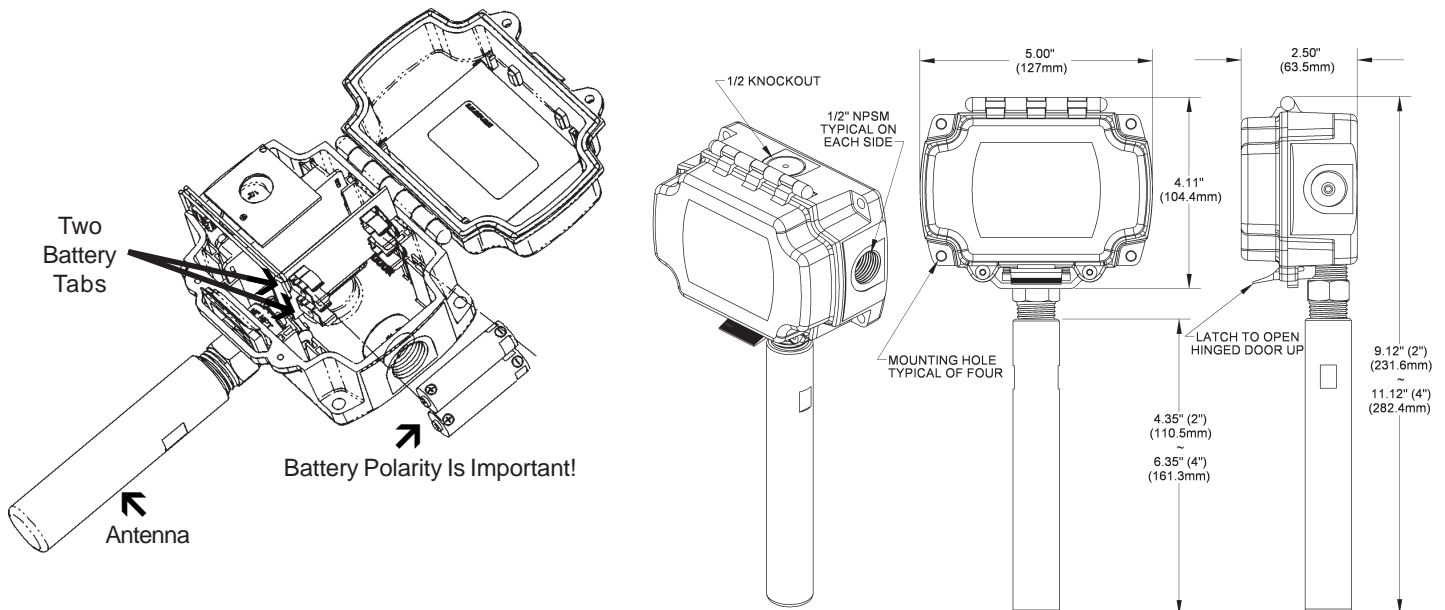

Fig 1: Wireless Thermobuffer Temperature Sensors
4. Open the cover of the transmitter and remove battery tabs or install the batteries, observe polarity (Figure 1). The transmitter LED, next to the Transmitter Training Button in Figure 4, should flash approximately once every 10 seconds. (The flash is very quick.)